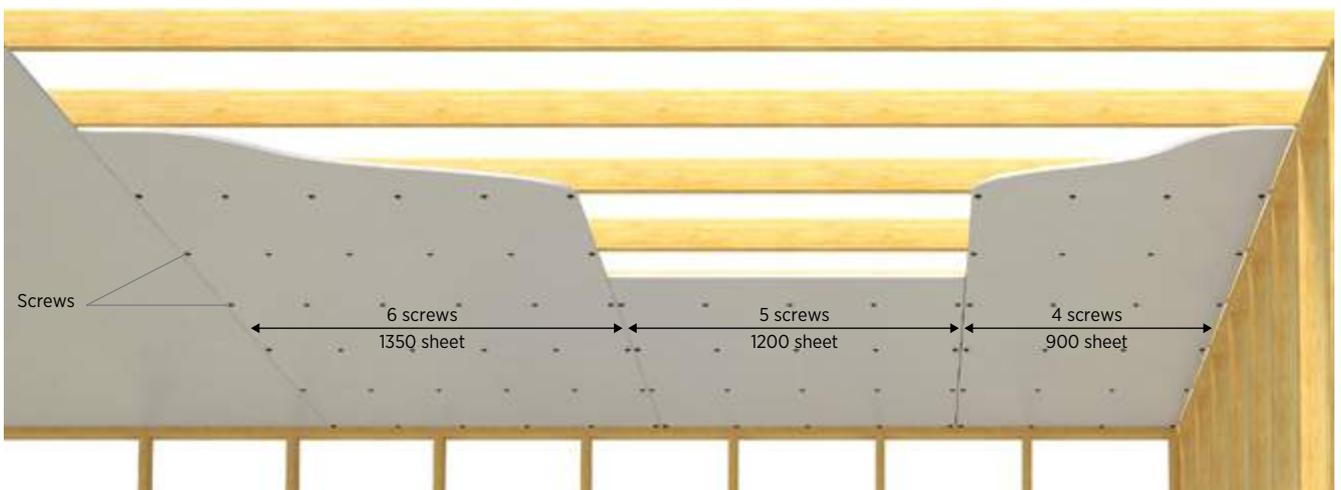

Figure 22: **Screw fixing (only) layout for ceilings**
- Refer Table 21 and Figure 22 for the number of screwing points across the sheet width.